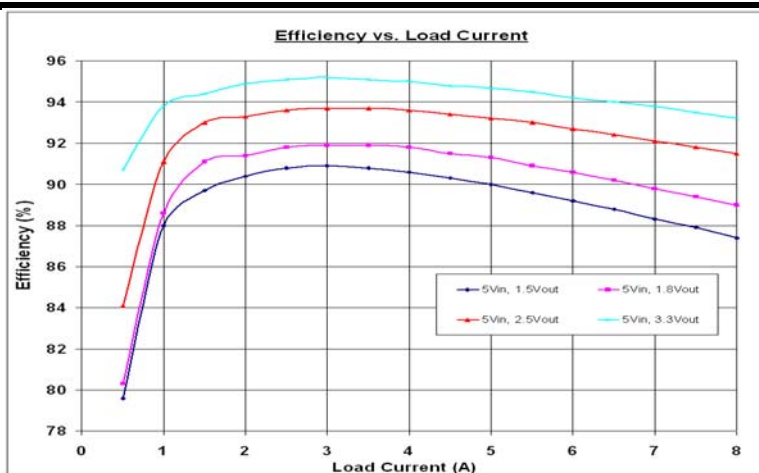
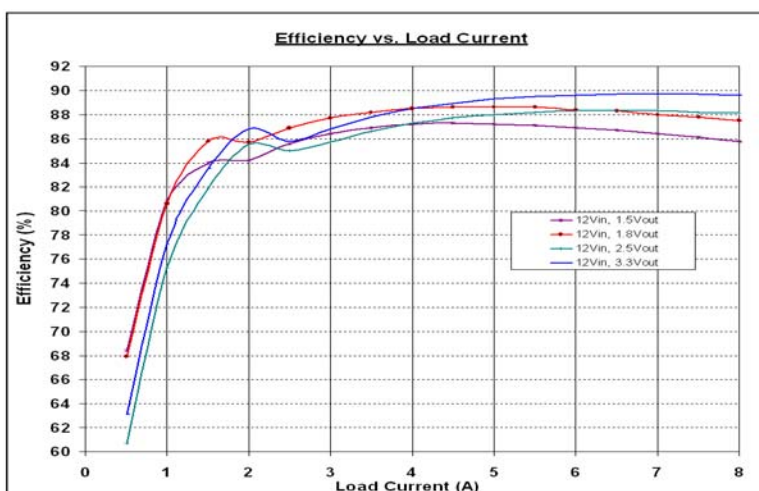

Figure 3. Typical Supply Efficiency vs Load Current of DC1320A-A at $V_{in}=5V$
Figure 4. Typical Supply Efficiency vs Load Current of DC1320A-A at $V_{in}=12V$
6. Typical efficiency curves are shown in Figure 3, Figure 4 and Figure 5.